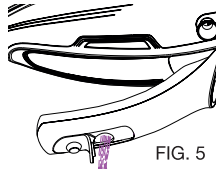

FIG. 5
- Empty the water tank after each use. To do this, turn the iron upside down and shake it gently to remove any remaining water from the tank (see Figure 5).